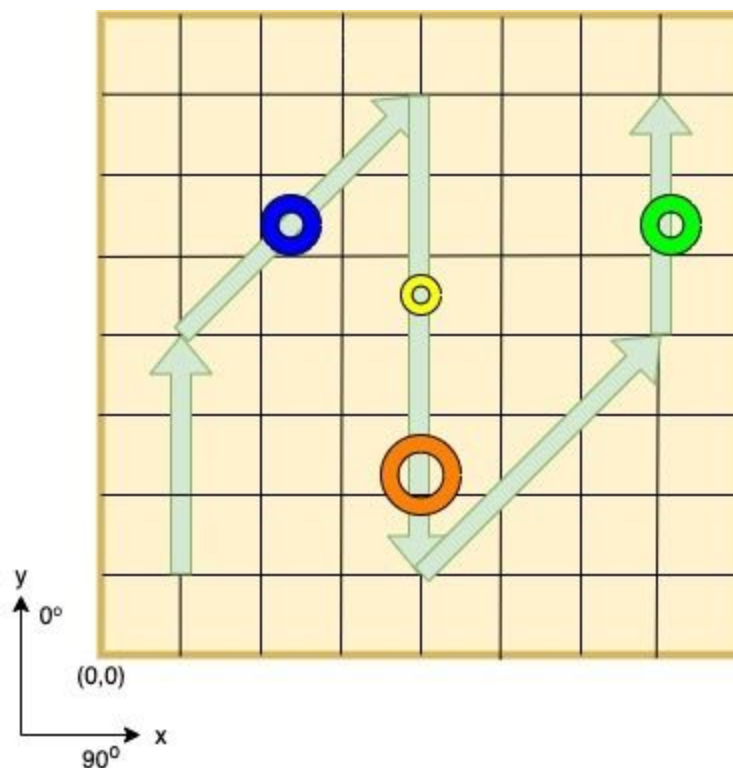

Figure 2: Search and Localize demo setup (with Map 4 and 4 rings)
- You must follow the  $(X,Y,\theta)$  convention specific to this lab (refer to **Figure 2**).
The field test will be set up on an 8x8 grid as shown below in **Figure 2**. There will be at least 2 and at most 5 rings in the navigation path.
- For example, for Figure 2 it should display:
- Set the robot to follow the navigation path from Map 4 (Figure 2).
- Place all 4 rings in the search region as shown in Figure 2.
Yes. Also, note that the bottom-left corner of **Figure 2** is specified as  $(0,0)$ .